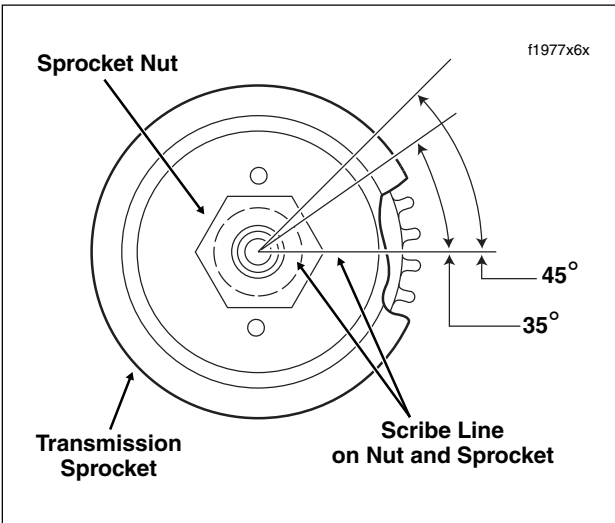

Figure 7-37. Tighten/Secure Sprocket Nut
9. Scribe a straight line on the transmission sprocket nut continuing the line over onto the transmission sprocket as shown in Figure 7-37. Tighten the transmission sprocket nut an additional 35° to 40°.
11. If holes in lockplate do not align with those in sprocket, tighten sprocket nut as necessary (up to the 45° maximum) until sprocket and lockplate holes are in alignment. See Figure 7-37.